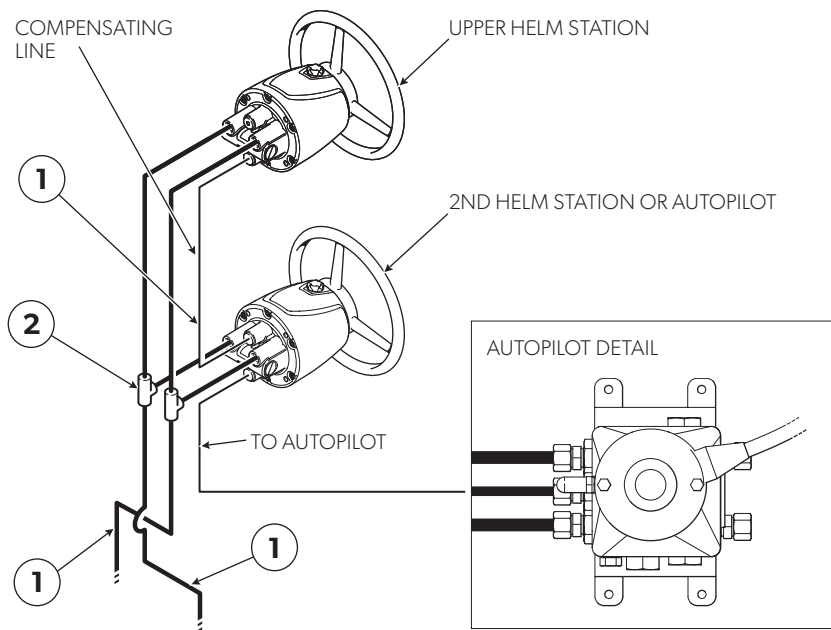

Figure 10-17.
1. Refer to illustration figure 10-17.